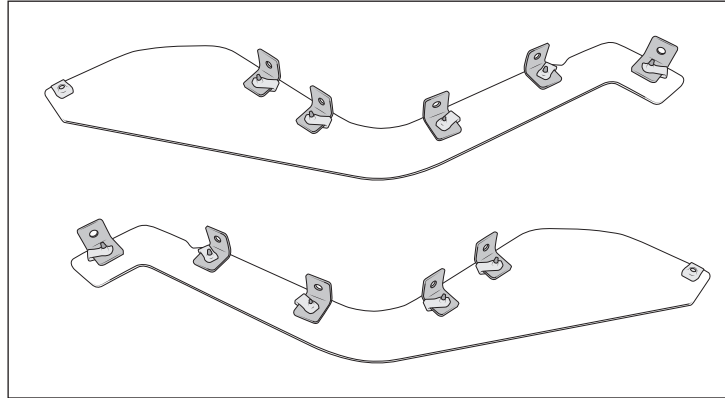

Figure 14
- B. Install L brackets and u-nuts to supplied closeout panels (fig. 14).